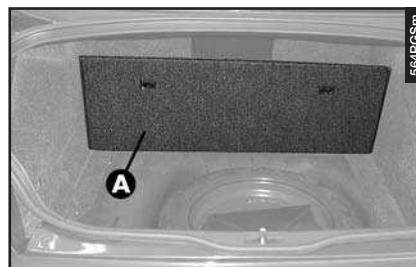

fig. 1
- Fold forward the boot mat (**A-fig. 1**).
— Fold back the boot mat (**A**-fig. 1).